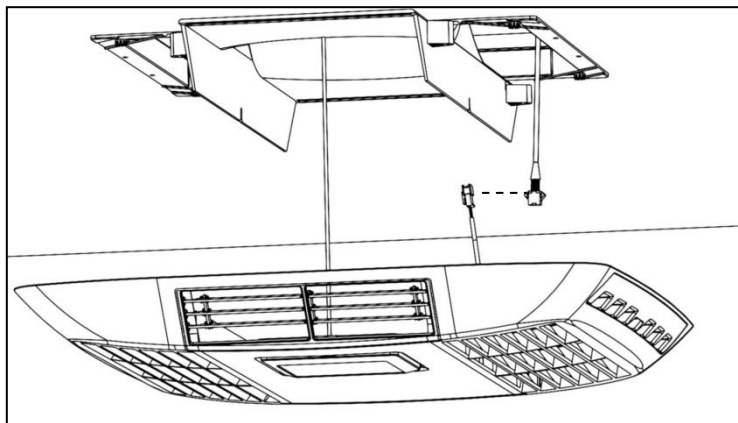

Fig 15: Attaching the suspension cable will allow two hands free to plug in the control cable
-This will allow you to use two hands to connect the control cable (see Fig 15).